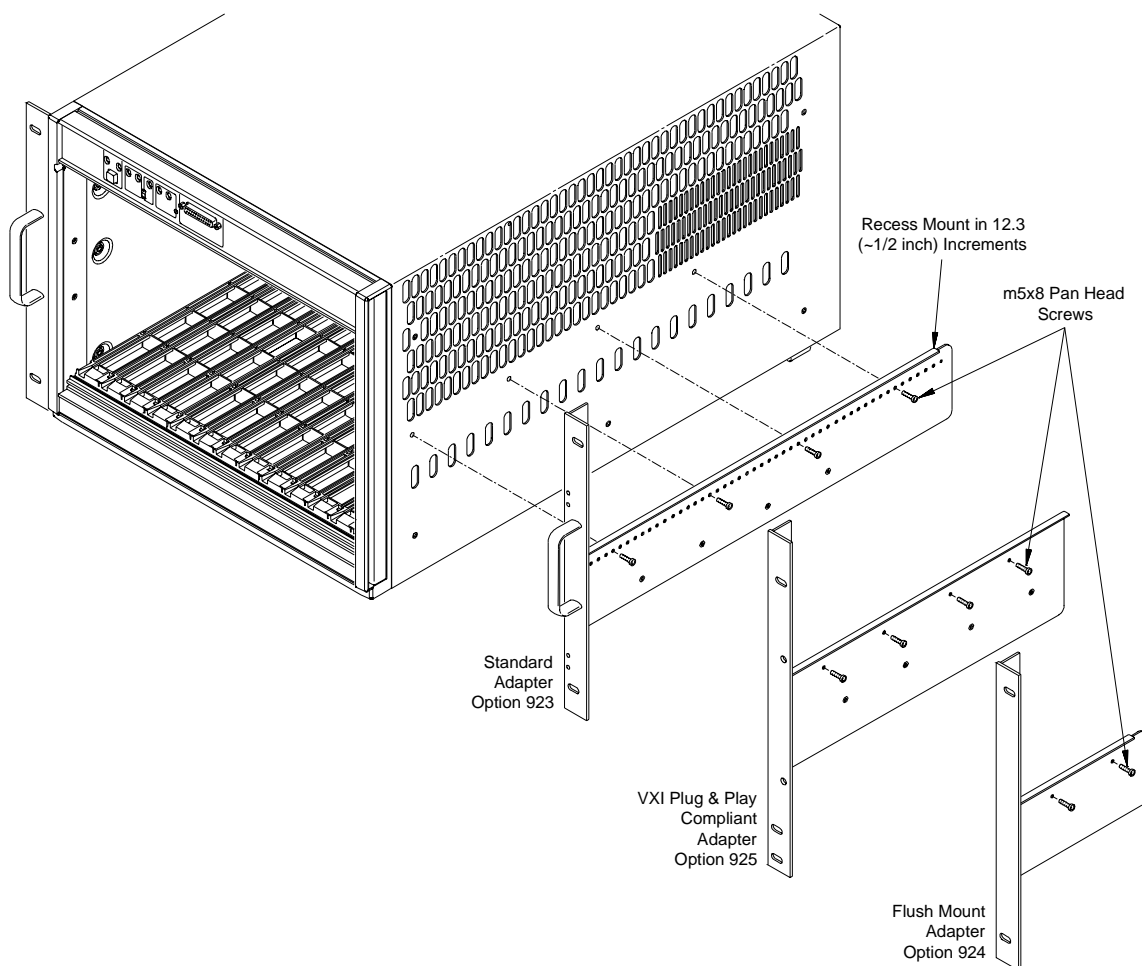

Figure B-4. Attaching the Rack Mount Adapter to the Mainframe.
5. Attach the rack mount adapters to the mainframe using the m5x8 pan head screws provided. To mount the mainframe flush with the rack front, begin with the 3rd hole from the front of the adapter (Figure B-4).
The rack mount adapters for the VXI compliant and flush mount options are also shown in Figure B-4.